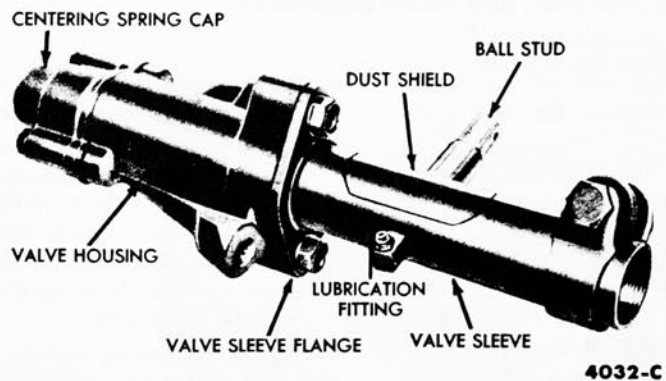

FIG. 10—Control Valve
2. Remove the 2 centering spring cap bolts and the cap from the valve housing (Fig. 10). **When holding the control valve for disassembly, use a soft-jawed vise, and clamp the valve only around the sleeve flange to prevent damage to the housing, spool, or sleeve.**